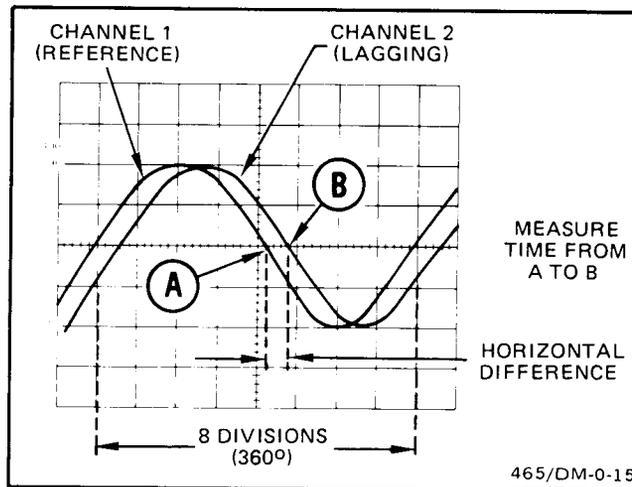
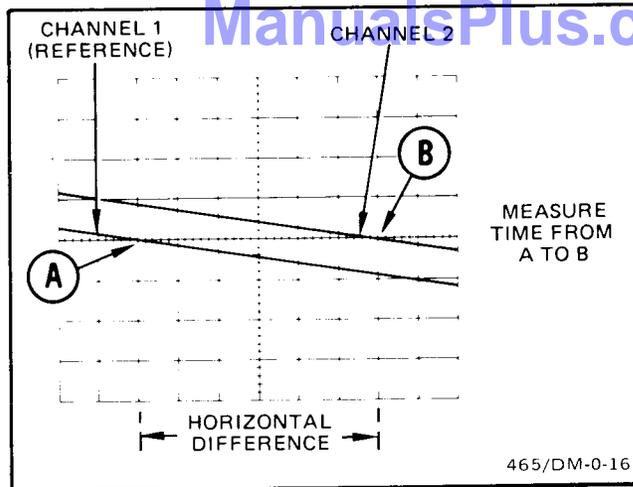

Figure 40. Phase difference.
Figure 41. High-resolution phase difference.
7. Set the TIME/DIV switch to display at least one full cycle of the waveform over the 10 graticule divisions. Position the display and adjust the TIME/DIV VAR control to place one reference signal cycle in exactly 8 divisions at the 50% rise-time points (see Figure 40).
EXAMPLE: The horizontal difference is 0.6 division with a graticule calibration of  $45^\circ/\text{div}$  as shown in Figure 40.
More accurate phase measurements can be made by using the X10 MAG function to increase the sweep rate without changing the TIME/DIV VAR control setting (see Figure 41).
EXAMPLE: If the sweep rate were increased 10 times with the magnifier (X10 MAG push button in), the magnified horizontal graticule calibration would be  $45^\circ/\text{div}$  divided by 10 (or  $4.5^\circ/\text{div}$ ). Figure 41 shows the same signals illustrated in Figure 40, but magnifying the displays results in a horizontal difference of 5.8 divisions between the two signals. The phase difference is: